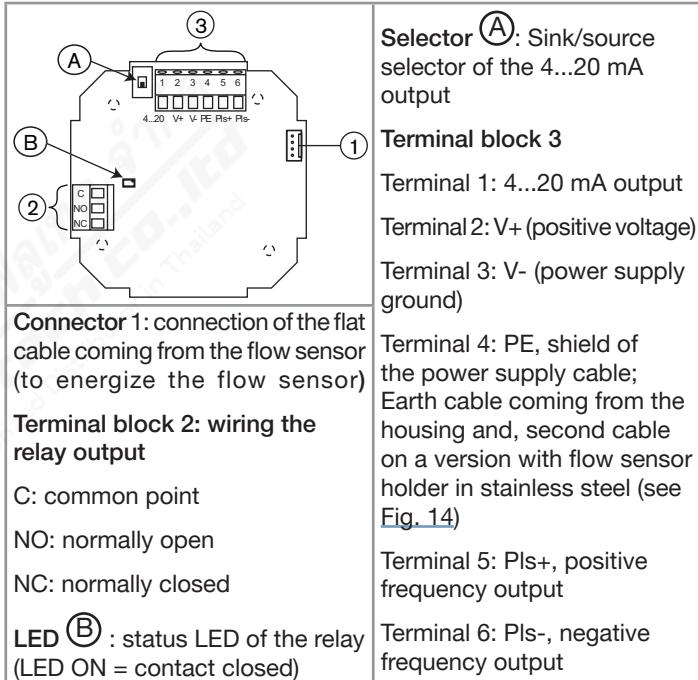

Fig. 13: Terminal assignment
- Loosen the 4 screws of the cover to access the electronic board of the device (see Fig. 13).